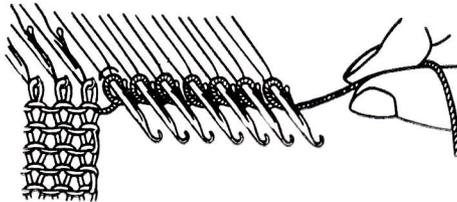

Fig. 53
- 2) Loosely wind yarn around stems of each needle. (winding in direction towards center) (See Fig. 53)